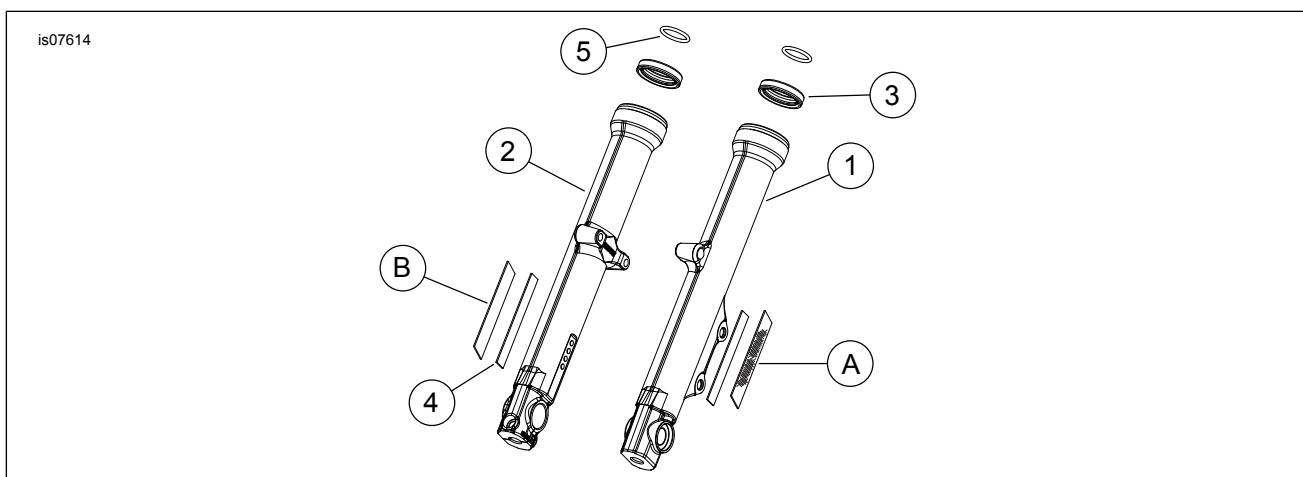

Figure 2. Service Parts: Chrome Fork Sliders
See Figure 2 and Table 1.
5. See the service manual. Disassemble the front fork tubes. Replace the original fork sliders with the chrome sliders (see Figure 2, items 1 and 2) from the kit.
- Using a piece of dental floss (or similar material) in a back and forth motion, loosen the reflector (Figure 2, A). Rotate the reflector from side to side until it can be removed from the fork slider. Retain the reflector for installation to the **new** slider. Repeat the procedure on the opposite side fork slider.